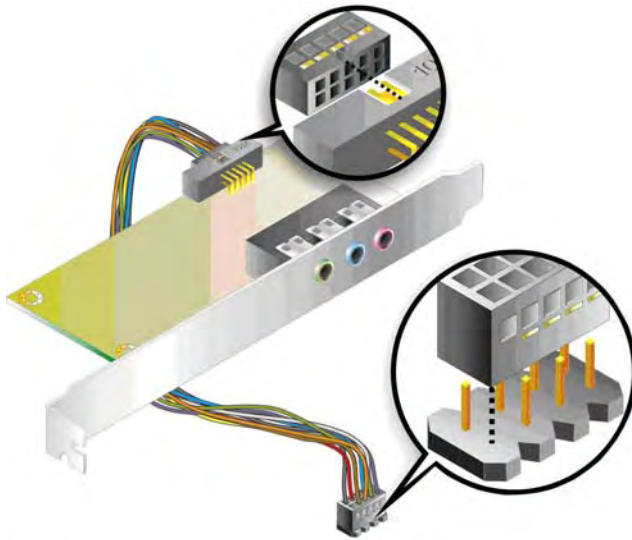

Figure 5-11: 5.1 Channel Audio Kit
- Step 3: Align pin 1.** Align pin 1 on the onboard connector with pin 1 on the audio kit cable connector. Pin 1 on the audio kit cable connector is indicated with a white dot. See **Figure 5-11**.